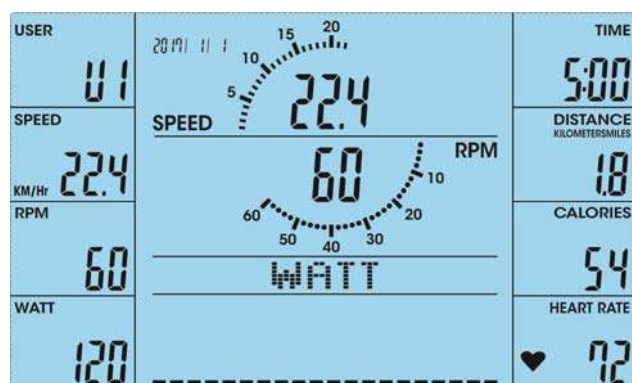

FIGURE 37
2. User can preset the LOAD/TIME/DISTANCE/CALORIES/PULSE data then press START to start exercise(FIGURE 37).